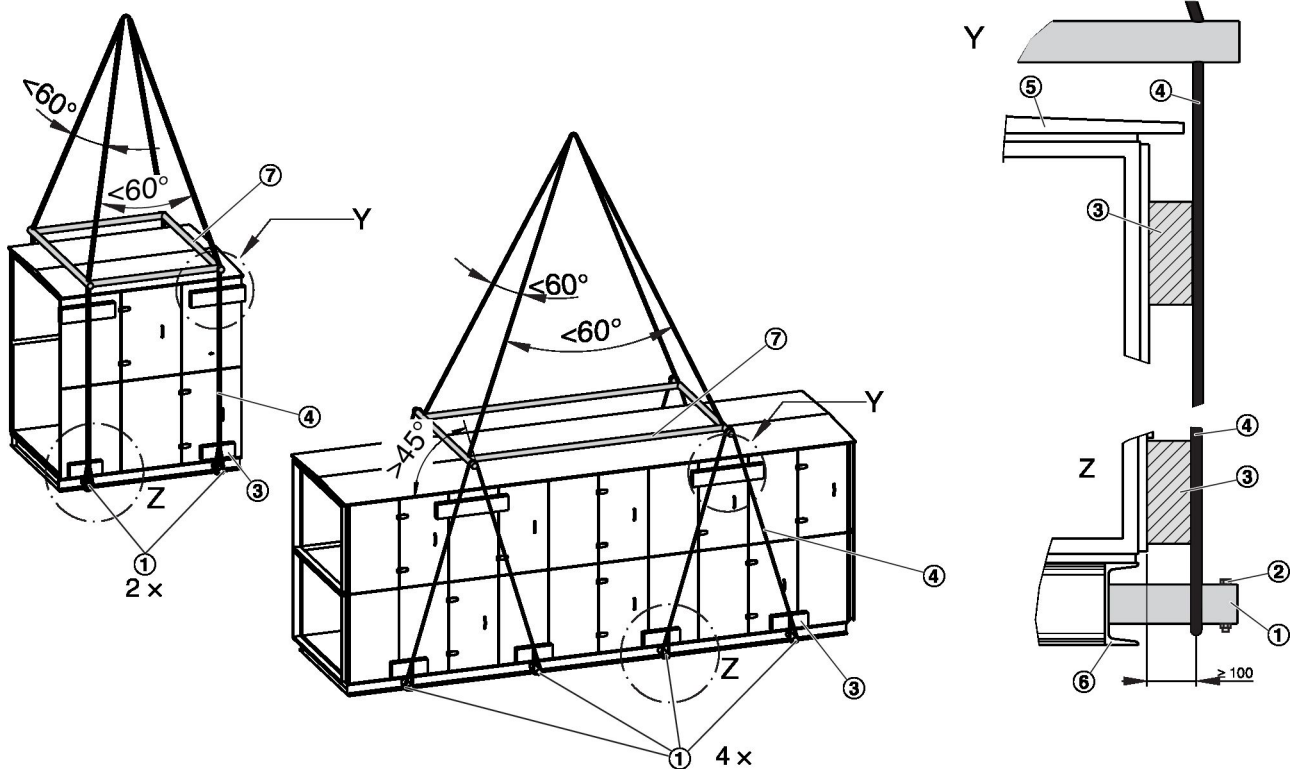

Fig. 8: Lashing points with two or four transport tubes
The number of drilled holes in the base frame ( Fig. 8 /6) indicates the number of transport tubes ( Fig. 8 /1) to be used.
- Select the lashing points based on the number of transport tubes you use, Fig. 8
- ▶ Remove the plugs from the drilled holes in the base frame ( Fig. 8 /6) of the AHU casing unit.
- ▶ Push transport tubes ( Fig. 8 /1) through the drilled holes in the base frame.
Secure the transport tubes with screws ( Fig. 8 /2).
3. ▶ Place the slings ( Fig. 8 /4) around the ends of the transport tubes.
Position slings between the base frame ( Fig. 8 /6) and the screws ( Fig. 8 /2).
Protect the edges with wood blocks ( Fig. 8 /3). If a unit with a roof ( Fig. 8 /5) is to be moved, use wood blocks that are thick enough to provide a distance of 100 mm between the sling and the casing unit.
Spread the slings near the roof with a suitable device ( Fig. 8 /7), e.g. a lifting beam.